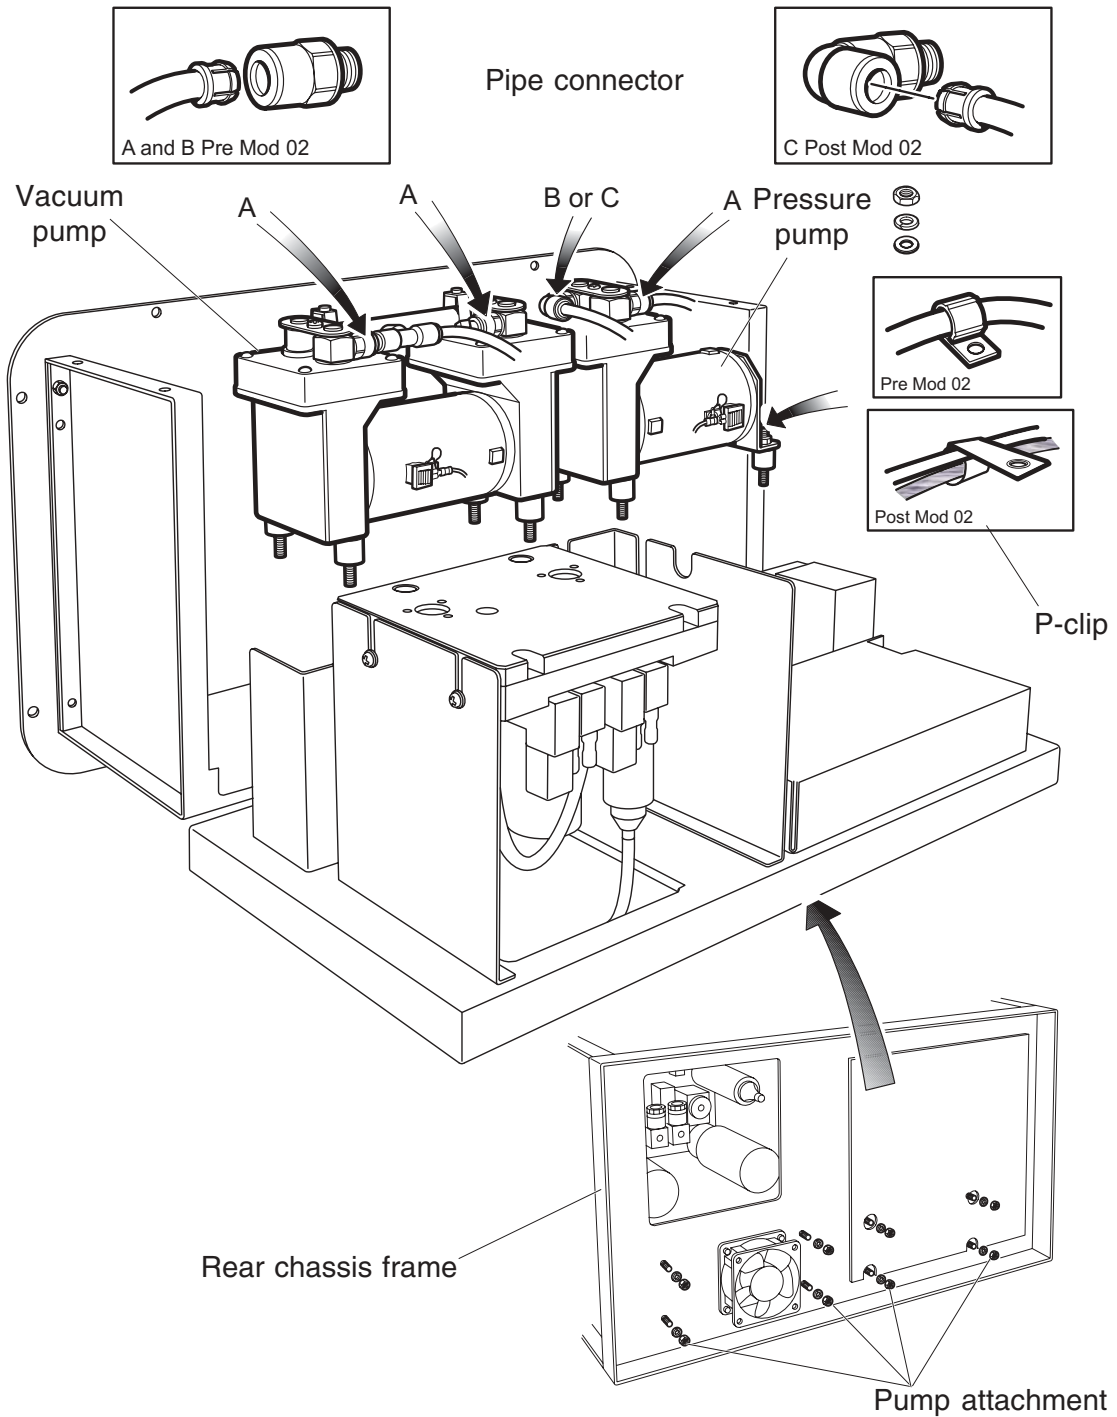

Figure 2-16 Pump location
- (x) To complete the 1000 hour maintenance procedure refer to paragraph (4) completion.
(3) Maintenance Schedule 2 (Figure 2-16)